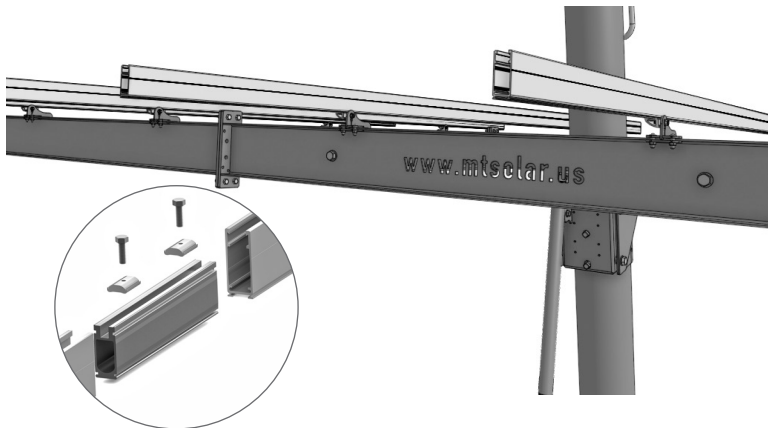

figure 3
- 7-2:** Tamarack 3.1 Rails use structural splices (figure 3), allowing the splice to land anywhere along the rail run.